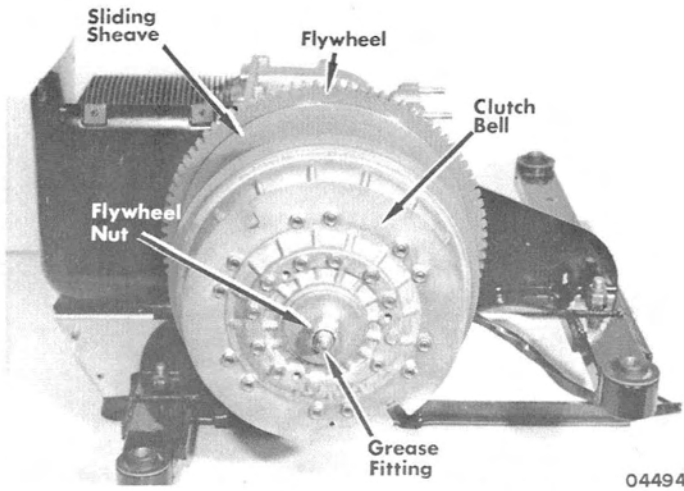

Figure 1. Removing Grease Fitting from Flywheel Stud
1. Remove grease fitting from flywheel stud. (Figure 1)